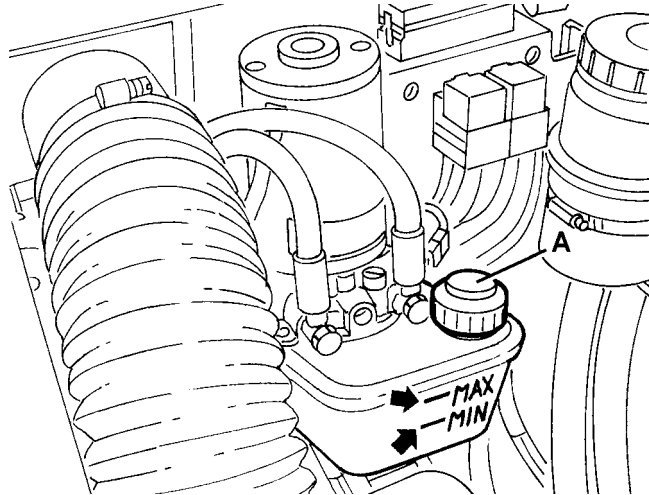

Figure 25
1. Engage the parking brake with the pedal (84) and the lever (76).
2. Turn the ignition key (69) to "0".
3. Open the hood (23) and secure it with the support rod (55).
4. Check that the oil level in the tank (41) is between the minimum (MIN) and maximum (MAX) marks shown in Fig. 25.
5. If necessary, add oil through the plug (A, Fig. 25), using the oil specified in Technical Data paragraph.
6. Disengage the support rod (55) and close the hood (23).